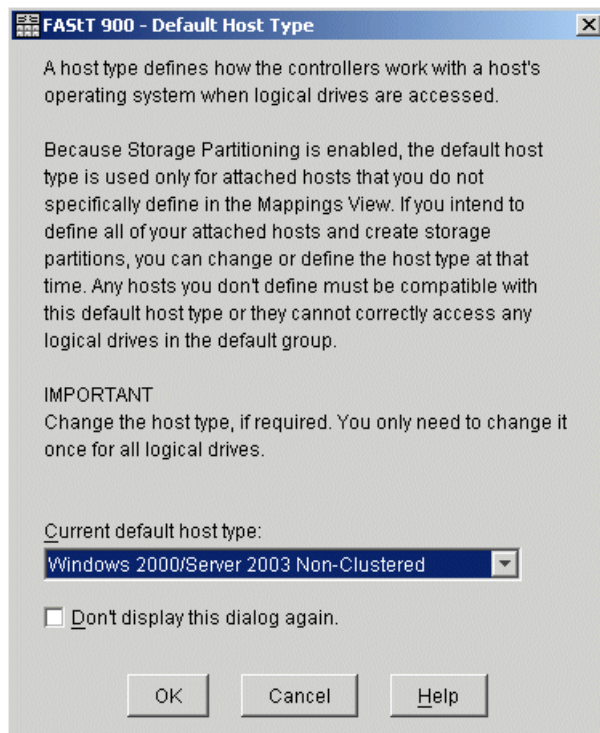

Figure 5-25 Default Host Type window
- a. If this is the first time you are creating a logical drive from this instance of the Storage Manager client, the window shown in Figure 5-25 on page 145 appears.